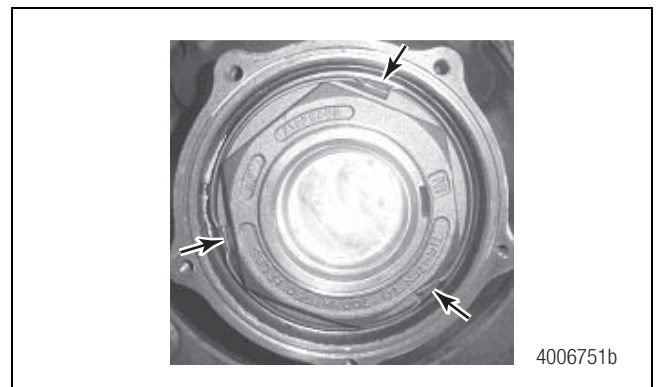
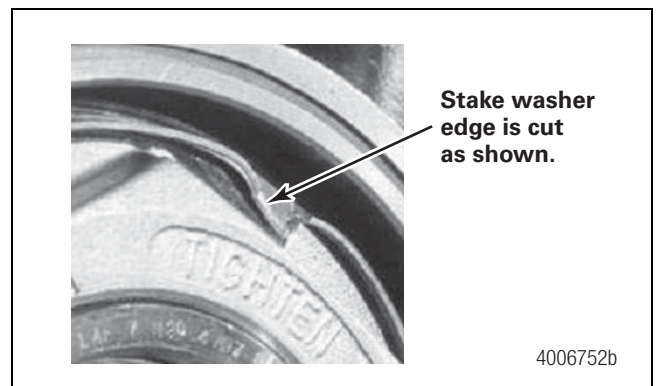
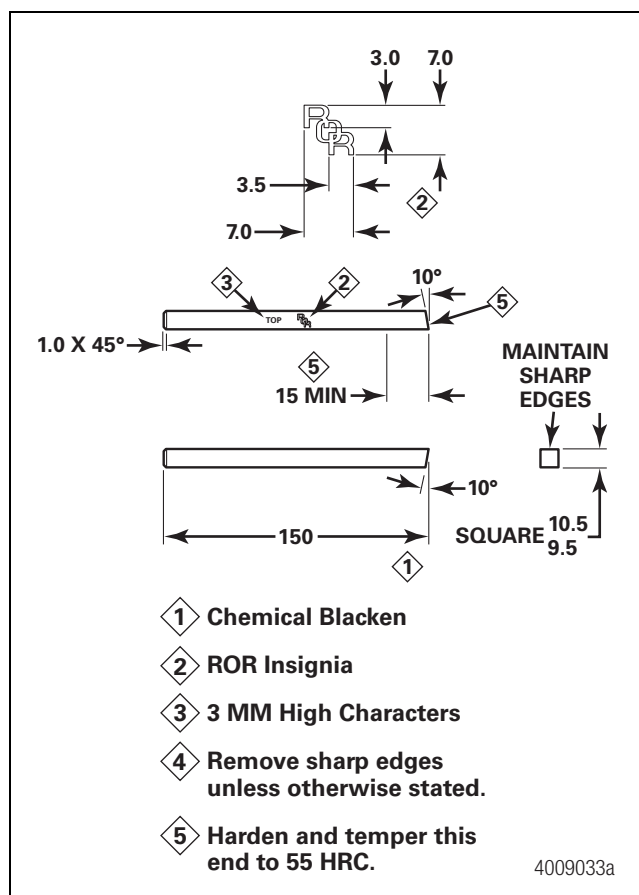

Figure 3
Figure 4
Figure 13
9. Use a hammer and staking tool (Figure 13) to stake the stake washer to the spindle nut in **three** positions. Bend the washer to the stake profile as shown. Figure 3 and Figure 4.
9. Use a hammer and staking tool (Figure 13) to stake the stake washer to the spindle nut in **three** positions. Figure 10 and Figure 11.